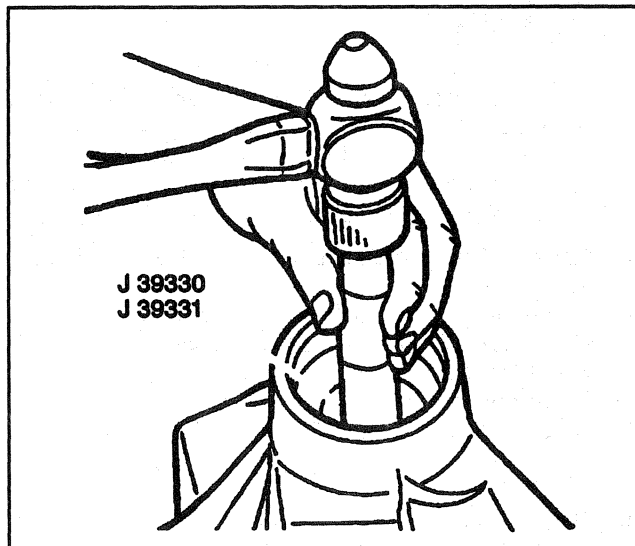

Figure 12—Removing the Bearing Cups
25. Bearing cups from the axle housing using J 39330 and J 39331 (Figure 12).